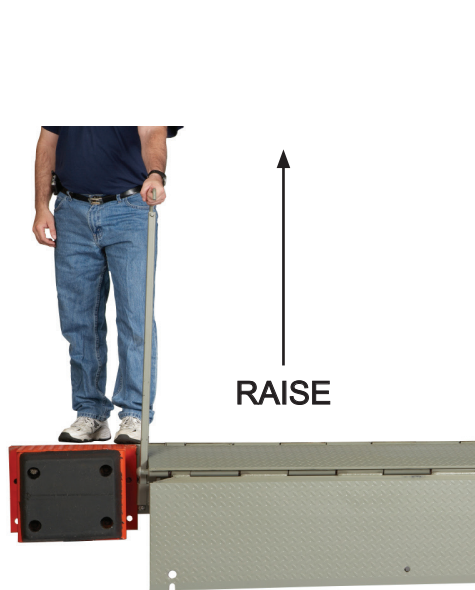

Figure 15
- a. Grasp the captured operating handle and raise to its full extended length. See Figure 15.